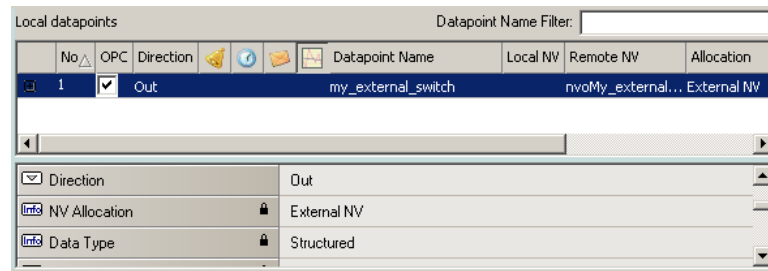

Figure 125: Manually created external NV in the port interface definition.
7. The external NV now appears in the data point list as shown in Figure 125. For external NVs, which are inputs to the device, adapt the poll cycle property to your needs.